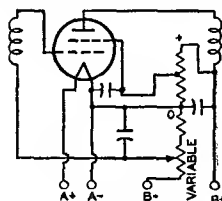

Fig. 86
bleeder circuit by means of a potentiometer as shown in Fig. 86; or (3) from a bleeder circuit in which the bleeder current is varied by a tube used for automatic volume control. The latter circuit is shown in Fig. 60.